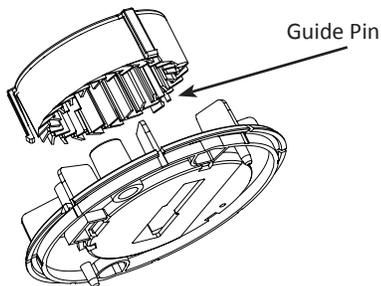

FIGURE 6: Replace Optic Cage into Optic Cage Base
7. After cleaning with clean compressed air, replace the optic cage by lining up the three connector arms and the guide pin into the optic cage ring and gently pushing until it clicks (FIGURE 6).